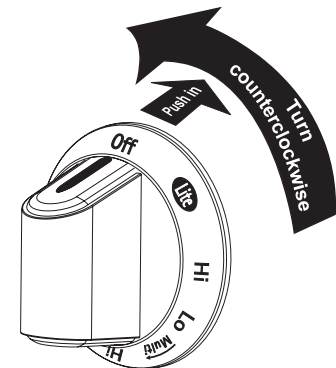

Fig. 2
2. Push the left rear surface control knob in and turn **counterclockwise** out of the OFF position (See Figure 2).